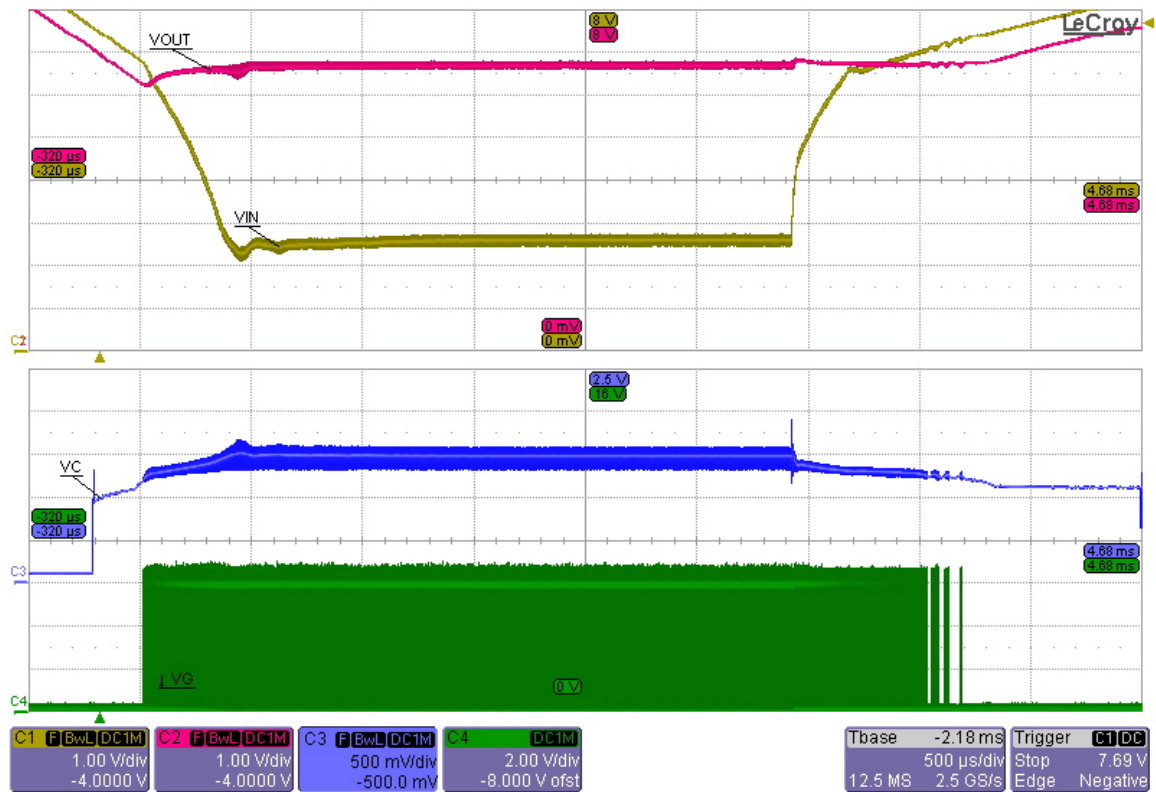

Figure 3 NCV887801 Demo Board Waveforms
3. Monitor VOUT. Disconnect supply DC1. VOUT should have a response similar to that of Fig 3.